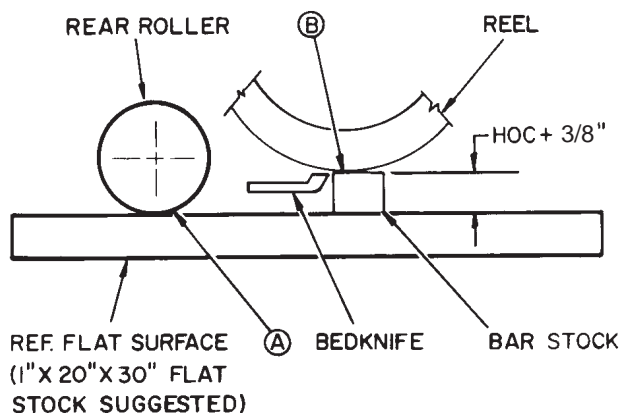

Figure 16
2. Insert a piece of bar stock 25–28 in. (70 cm) long (Fig. 16), and approximately 3/8 in. (9.5 mm) thicker than the desired height-of-cut, under the reel and up against the bedknife cutting edge (Fig. 16). The reel (not bedknife) must contact the bar stock along its full length.
5. Insert piece of bar stock (Fig. 16) 25–28 in. (70 cm) long with thickness equal to desired height-of-cut, under entire length of the reel, next to bedknife.